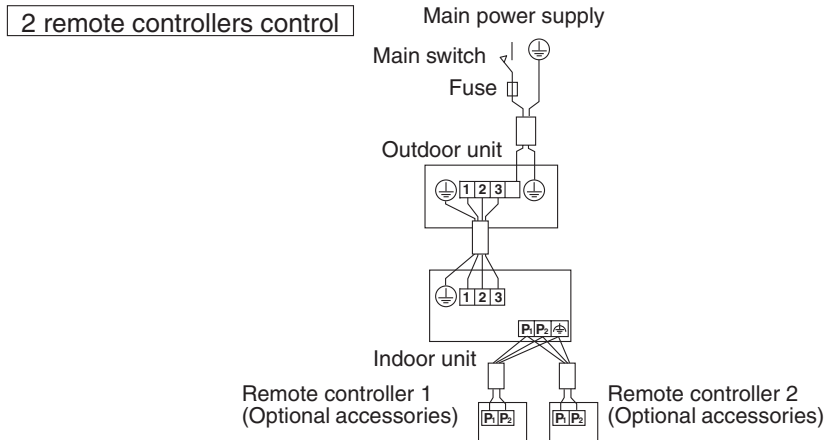

Fig. 27
- **2 remote controllers control:** 2 remote controllers control 1 indoor unit. **(Refer to Fig. 27)**